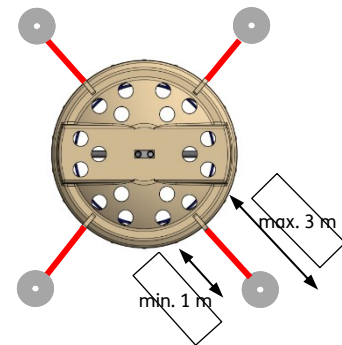

Fig. 11
- The anchoring distances must be observed (Fig. 11)